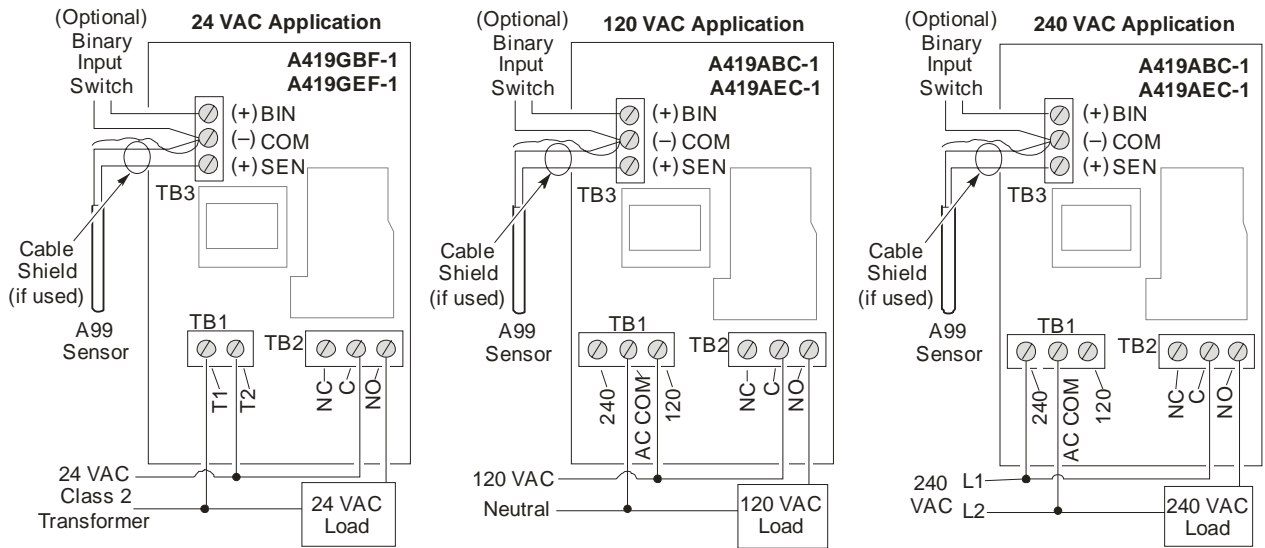

Figure 3: Typical Wiring for the A419 Series Temperature Controls: 24, 120, and 240 VAC Applications
Observe the following guidelines and refer to Figure 3 and Table 1 when wiring the A419 control to your equipment.
- A99 temperature sensors are not polarity sensitive. Wire the leads to (+) **SEN** and (-) **COM** on the sensor terminal block (TB3). See Figure 3.
Temperature Offset (OFS) establishes a set secondary **Setpoint** and **Differential** values that may be invoked to control an application when a circuit is closed between the binary input (**BIN**) and common (**COM**) terminals (and **BIN** appears on the display). See Figure 3. Offset range is 0 to 50F° or C° (in 1-degree increments). A typical application might use a switching time clock to invoke night-setback temperature settings.
- b. Use a reliable AC voltmeter to check the voltage between the **COM** and **120V** or **240V** terminals on-line voltage models and the two **24V** terminals on low-voltage models. Refer to Figure 3.